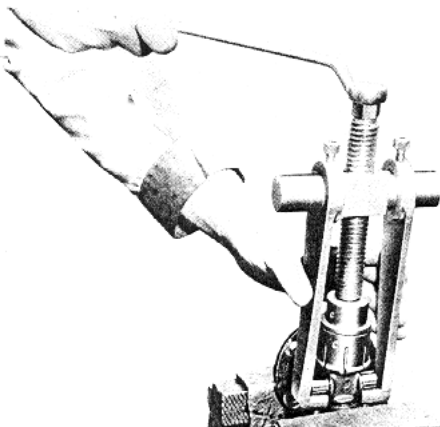

Fig. 8-16 Removing bearing cup
9. Position the replacer on the yoke as shown in Fig. 8-16 and remove the bearing cup in the same manner.